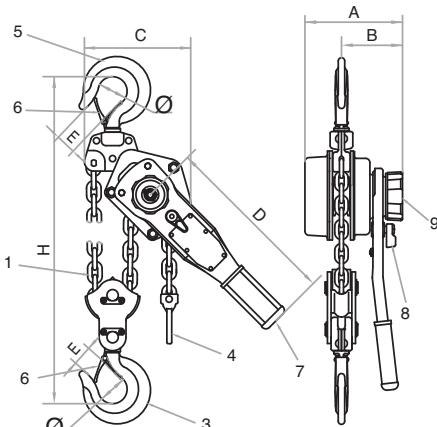
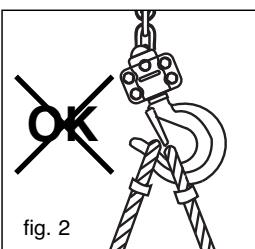

fig. 1
fig. 2
The bravo™ hoist is supplied with a standard 1.50 m length of load chain (item 1, fig. 1). The load chain used with the 0.25 t to 3 t models is formed by a single strand with a lifting hook (item 2, fig. 1) at its end. The load chain used with the 6 t model is formed by two lifting strands and a sheaved lifting hook (item 3, fig. 1).
The free end of the chain is equipped with a low limit stop (item 4, fig. 1).
1. Check that the bravo™ hoist is properly suspended by its suspension hook (item 5, fig. 1) and that the hook safety catch (item 6, fig. 1) is properly closed (see figs 2 and 3).
1. the anchoring accessory of the load sits fully in the hook and does not prevent the catch from closing correctly (see figs. 2 and 3).